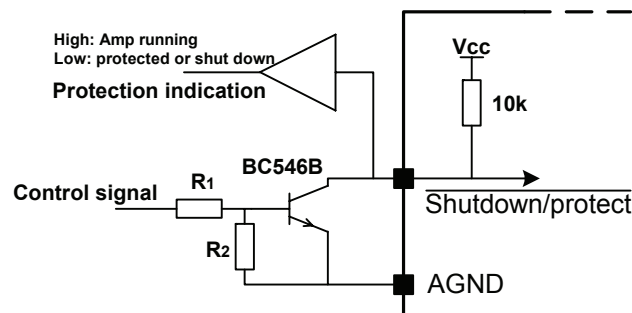

Figure 16: Interface and simplified internal circuit for Shutdown/protect pin.
9) Only valid with the circuit shown in Figure 16.
The recommended external circuit for shutdown is shown in Figure 16. The timing specifications are only valid with the interface circuit shown in Figure 16.